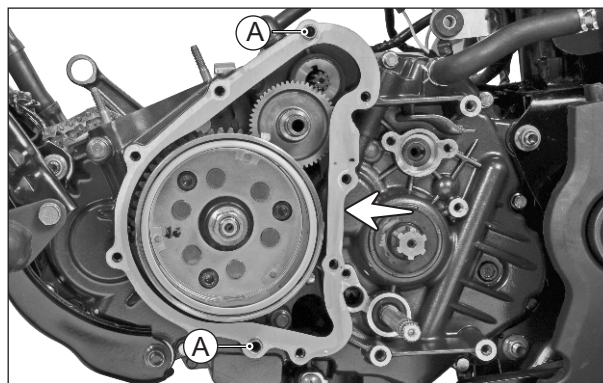

Fig. 3.112
- Take out gasket magneto cover and dowel pin (A) (2 nos.). (Fig. 3.112)